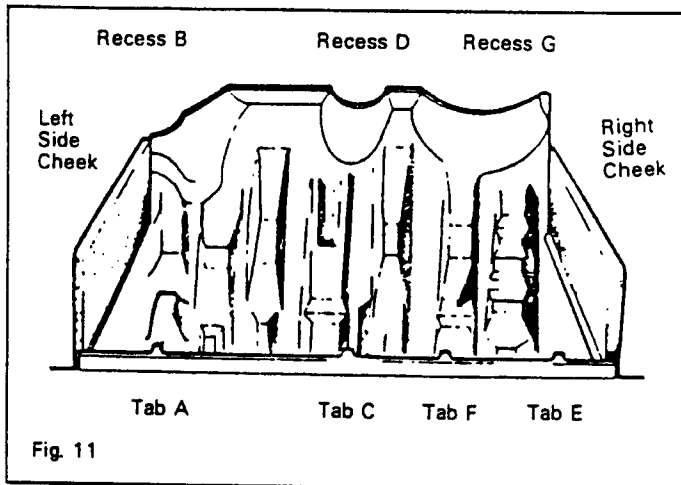

Fig. 11
- (c) Take the ceramic side cheeks from the pack and place in position. The cheeks are left and right handed. (See Fig. 11).
- (i) (Refer to Figs 11 & 12). Place the log No. 1 at the left side of the log support bed. Locate the hole at the front edge of the log onto tab 'A' on the front log support rail and locate the projection underneath the log into recess 'B' in the ceramic support bed.